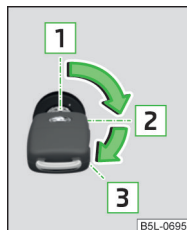

Fig. 87
Positions of the vehicle key in the ignition lock » Fig. 87
- Turn the key to position **3** » Fig. 87 on page 70, the start-up process will begin. Then release the key, the engine will start automatically.
- Turn key to position **1** » Fig. 87 on page 70.